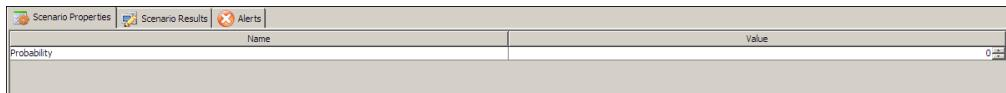

Figure 16: Assign Probability
- If any decision node is used in the process flow, you can assign the probability for each possibility of the decision node. To assign the probability, double-click the sequence coming out of the decision node. Properties of the sequence flow are shown in *Scenario Properties* panel (see Figure 16).